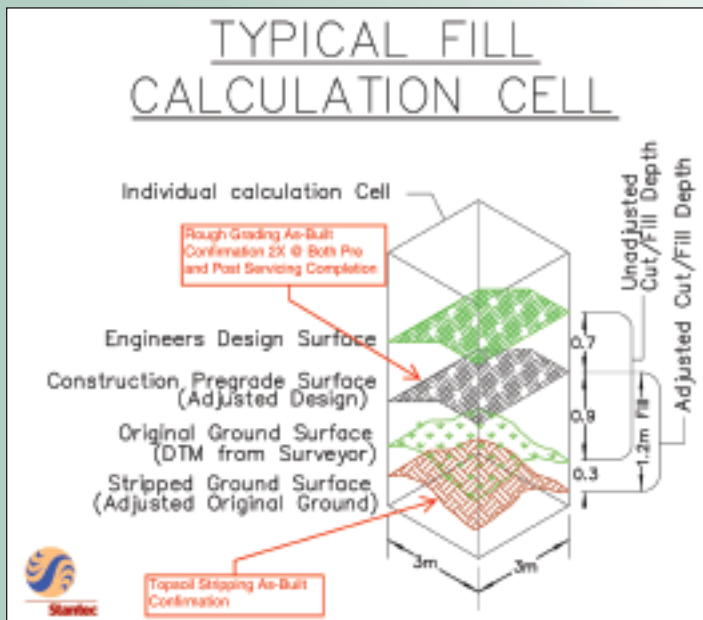

Figure 1.
The location of the first three survey efforts in a typical earthwork calculation cell is shown on **Figure 1**. Note that items 2 and 3 are targeted on the same surface but at